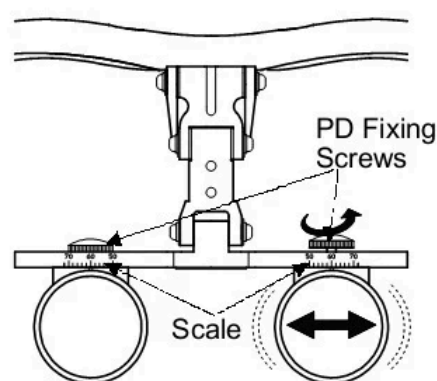

Fig. 4-3
- (1) Loosen the PD fixing screw on the Barrel to slide the Barrel by slightly turning the screw counterclockwise to allow movement (see Fig. 4-3).
- (2) Adjust the pupil distance (PD) by sliding the Barrel horizontally until the target is in the center of the field of view looking at a target with one eye and keeping the head in one position.
- (3) Adjust the PD of the other Barrel by repeating the above procedures for the other eye.
- (4) Check that the target is a clear and single image while looking at it with both eyes.
- (5) When acceptable, tighten the PD fixing screws to secure the Barrels.